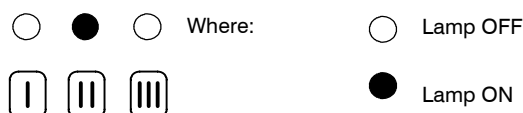

Fig. 10
- 11 Press the reset button D once until the lamps F give the indication as in Fig. 10 (useful output, second step).